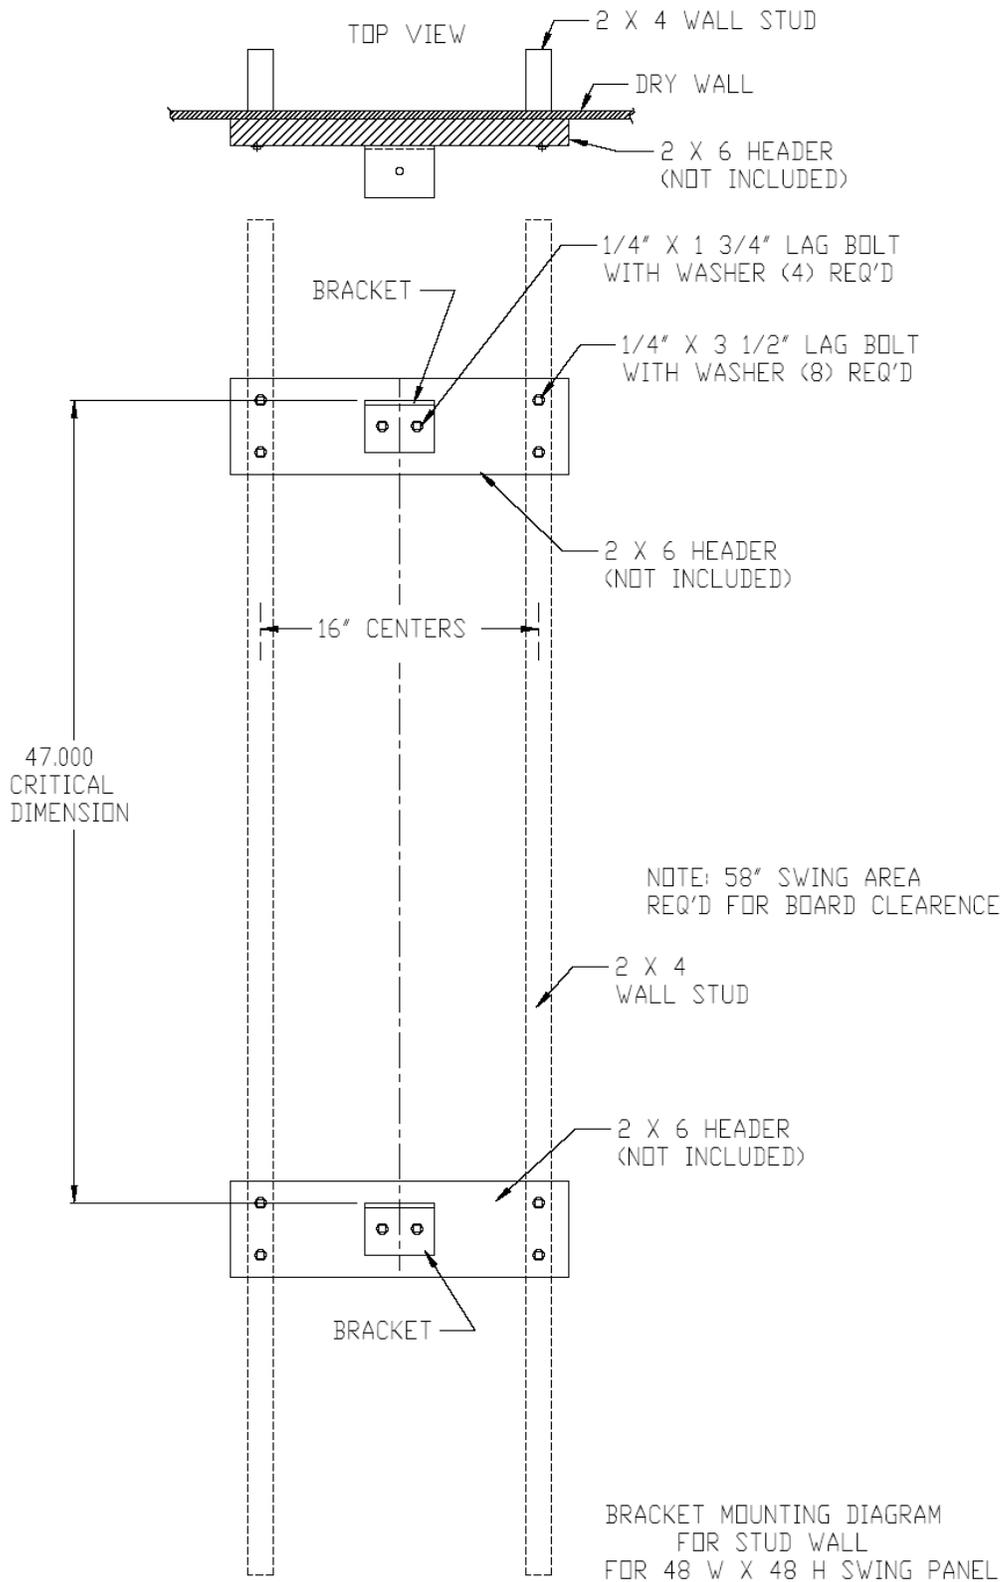

FIGURE 1-4
**Note: Before starting step 6, it will be necessary to determine if your walls are plumb and structurally sound. It may be necessary to install some type of shim system or header for either or both, top and bottom wall brackets. (For 2" x 4" studded walls refer to figure 1-4 for header installation.)**
**Step 6. Bottom wall mount bracket installation for concrete walls** (refer to figure 1-1, 1-2 & 1-4): Each bracket/angle has been pre-drilled for wall and panel attachment. You will be installing your bottom bracket first. **A)** Determine the appropriate height you want to install off the floor or work surface. **B)** Using one angle bracket as your template, with surface having only one hole on top and flat surface with two holes against the wall at the desired height. **(Avoid mortar joints between concrete blocks.)** **C)** Making sure wall mount bracket is level; mark both hole locations on the wall. **D)** Using 3/16" masonry bit and hole location markings on the wall, drill two holes 1-1/4" in depth. **Do Not Ream Out or Oversize the holes** **E)** Align bracket back over holes drilled and using a #2 Phillips head bit and electric drill set at medium speed, install (2) 1/4" x 1-1/4" masonry screws. **. WARNING:** **Overtightening could cause holes to become oversized. If holes become enlarged: You must properly repair and re-drill, relocate mounting brackets or install a wood header.** For 2x4" studded walls refer to figure 1-4 for installation.
When installing a system to other types of wall structures it is recommended that a 2" x 6" header be securely installed to multiple studs and that 1/4" lag bolts be used in place of the supplied masonry bolts to attach wall brackets. (Refer to figure 1-4 for header installation)